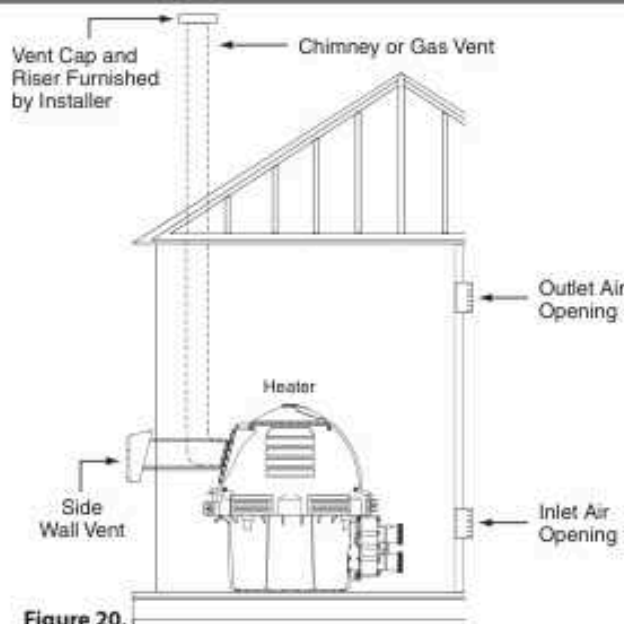

Figure 20.
HORIZONTAL OR VERTICAL VENTING - POSITIVE PRESSURE (See Figures 20, 21, and 22)**(Category III)**
6. **Vent Termination – Vertical (See Figures 20 and 21),** for height of vent termination above the roof. Use an "Approved" vent terminal specified by local and national codes and your manufacturer's instructions. A roof termination must be vertical. In Canada, the Vent Cap location shall have a minimum clearance of 4 feet (1.2M) horizontally from electric meters, gas meters, regulators, and relief openings.
In any utility room or residential garage installation, install the heater with the base at least 18 inches (.5M) above the floor, see **Figure 20**. In a garage, install a rail or wall to protect the heater from physical damage by a moving vehicle.